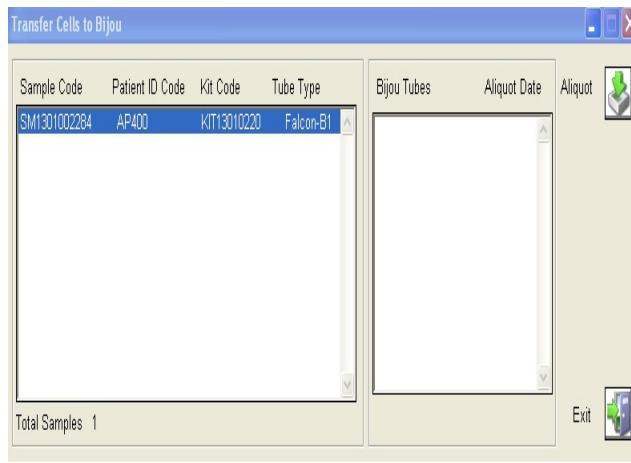

Figure 16: Transfer Cells to Bijou
4. For entering the information about the processing of the buffy coat and cell pellet, select the '**Aliquot Cells to Bijou**' icon. This will bring up the '**Transfer Cells to Bijou**' screen (Figure 16).